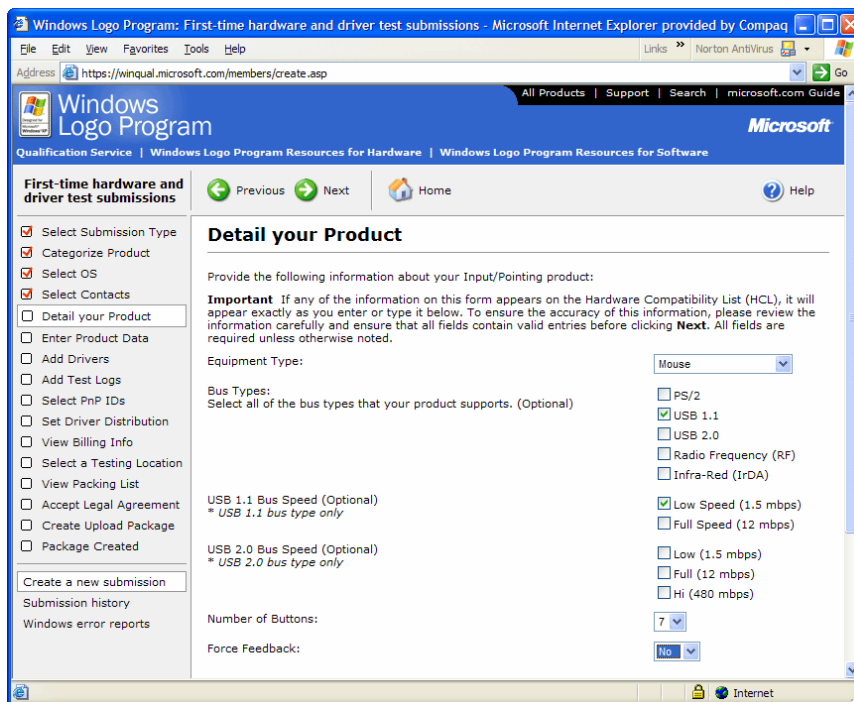

Figure 15-23. Detailing the product.
- What, exactly, is your product? (See Figure 15-23.)